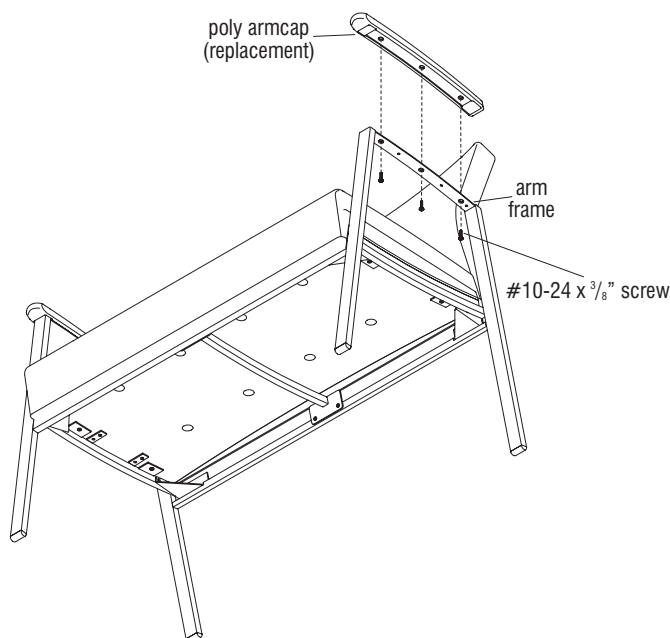

Figure 5
1. Set the replacement poly armcap onto the arm frame. Align the holes in the armcap with the holes in the arm frame and secure using three #10-24 x $\frac{3}{8}$ " wood screws (Figure 5).